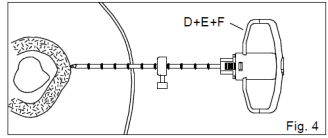

Fig. 4
The approach should be accurately planned using diagnostic imaging and clinically approved techniques. Disinfect the skin, make a small skin incision, and perform local anesthesia. The following is a suggested method for using the device with a guided approach over the Guide Wire (C). For a direct approach, go to Fig. 4.
FIG. 4 Introduce the assembled Cutting Cannula with Grooved Stylet and optional Handle (D+E+F) by rotating counterclockwise until in contact with bone. Remove Guide Wire (C) if present.